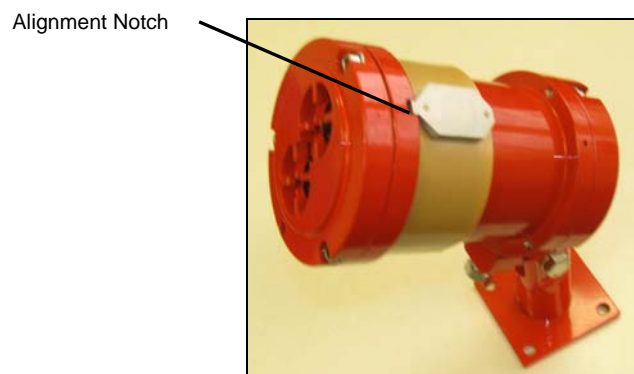

Figure 6-1: IPES IR/UV with Magnetic Switch Collar
2. If it is necessary to isolate the detector fire relay from the alarm system, apply the magnetic collar over the enclosure with the tab on the bracelet fitting into the alignment notch as shown in Figure 6-1. Placing the collar over the enclosure as shown allows the fire relay contacts to remain in the non-alarm state during testing.
2. If it is necessary to isolate the detector fire relay from the alarm system, apply the magnetic collar over the enclosure as shown in Figure 6-1. Placing the collar over the enclosure as shown allows the fire relay contacts to remain in the non-alarm state during testing.